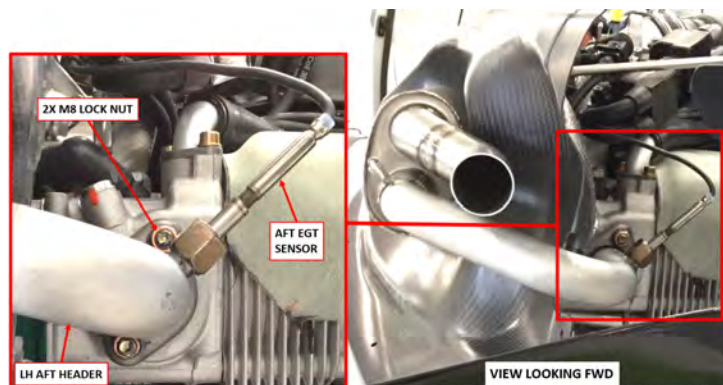

FIGURE 16-31
3. Remove the two M8 nuts securing AFT header to the engine with a 12 mm wrench. Anti-seize should be present on slip joint into cylinder and slip joint at FWD Muffler. (See Figure 16-31.)